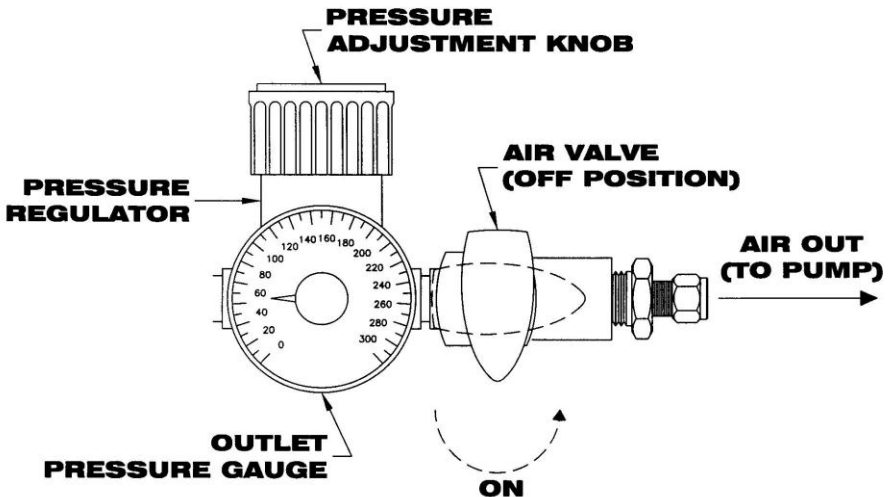

Figure 3-1 – Example of Typical Air Supply Control
1. Start the air compressor. If the air compressor was supplied by Geotech, two pressure gauges, a pressure switch, an air valve, and a pressure regulator are located on the top of the compressor air tank(s). The main pressure gauge shows the total tank pressure, and the outlet pressure gauge (Figure 3-1) shows the outlet air pressure set by the regulator. The pressure switch has a lever with two positions. Move the lever to the "AUTO" (down) position, and the compressor will run until the tank pressure reaches 120 psi (8.3 bar). Turn the air valve on and verify that the pressure shown on the outlet pressure gauge reads between 80 psi (5.5 bar) and 100 psi (6.9 bar). If the setting is outside of this range, adjust the pressure by rotating the knob on the regulator.